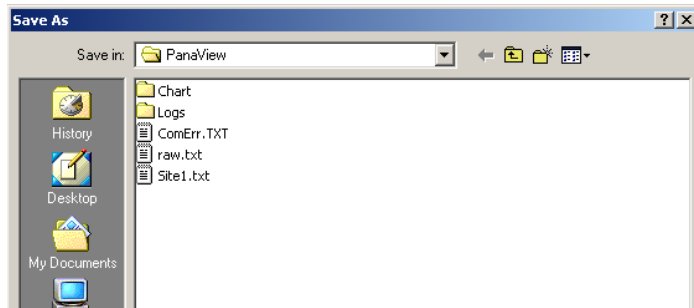

Figure 9: menus in the edit functions option
4. Expand the *edit functions* option. A window now appears similar to that shown in *Figure 9* below.